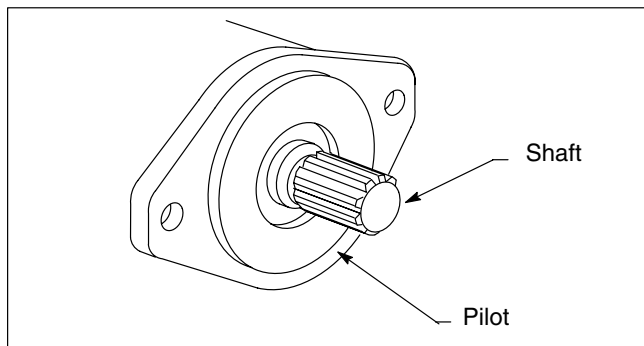

Figure 4.
1. **Direct Drives** – Care must be exercised when mounting the motor so that the pilot diameter fits properly into the mating section of the prime mover (see Figure 4). The pilot should not be forced into the mating part under any condition. Care should be exercised in tightening all flange mounting screws to prevent misalignment of shaft connections.